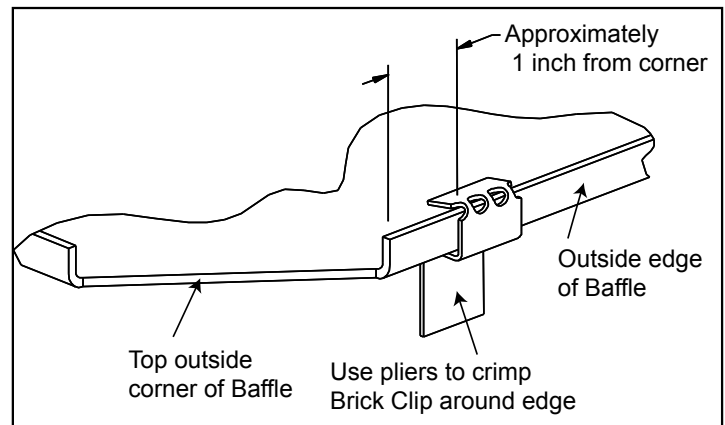
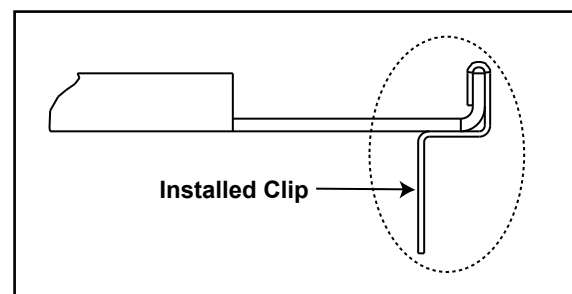

Figure 19.4
Figure 19.5
3. Using pliers, bend the brick clip slightly past 90° in the direction shown in **Figure 19.4**.
4. Position the brick clip as shown in **Figure 19.4** and use pliers to crimp around the outside edge of the baffle as shown in **Figure 19.5**.
- Note:** Figure 19.5 shows the finished shape of the brick clip, after being bent around the outside edge of the baffle.